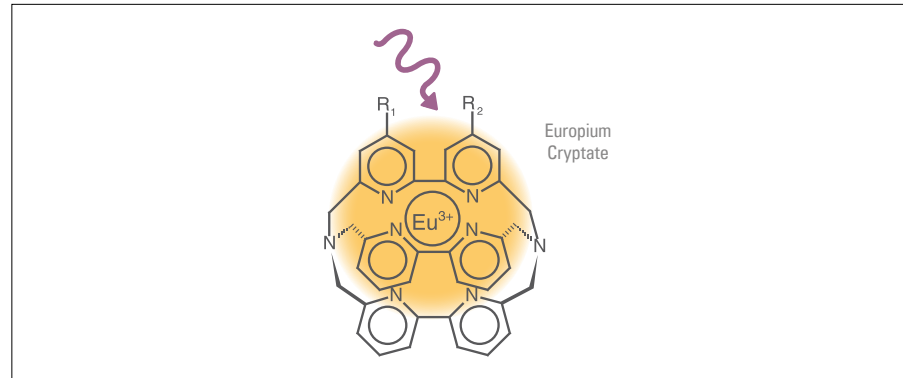

Figure 6 Europium cryptate structure consists of a tris bipyridine macrocycle in which the lanthanide ion is tightly embedded.
- Europium cryptate (Eu^{3+} cryptate), the fruit of Prof. J.M. Lehn's work, at the University of Strasbourg, for which he was awarded a Nobel Prize for Chemistry in 1987 (Figure 6)
HTRF's central element, the energy donor, called a cryptate, consists of a rare earth complex in which a lanthanide ion, such as europium or terbium, is tightly embedded in a macrocyclic motif or cage, (Figure 6). Both europium and terbium cryptates produce long-lived emissions in the range of 1 to 2 msec, a characteristic that is fundamental for time-resolved detection. Europium and terbium ions do not absorb light efficiently; they require a "light-collection" device (i.e. the cage) for excitation. Both HTRF donors use a proprietary macrocyclic cryptate structure to collect and transfer energy to the lanthanide ions. Chelate structures used in other TR-FRET system are unstable